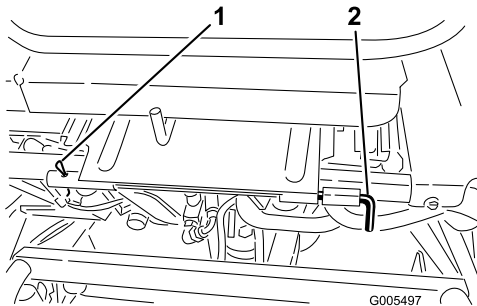

Figure 27
3. Lower the seat and remove the roll pin securing the seat-pivot rod to the frame (Figure 27).